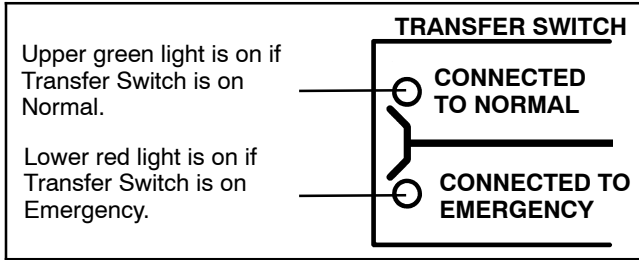

Figure 7-33 Status Lights for Transfer Switch Main Contact Position
1. Observe which *Transfer Switch Connected To* light is on (*Normal* or *Emergency*) on the door. This is the position of the transfer switch. See Figure 7-33.